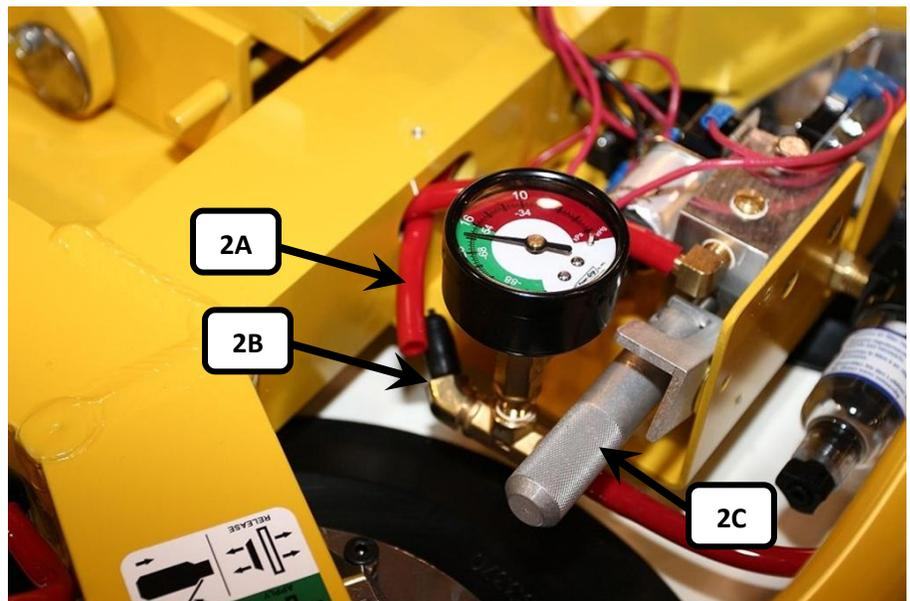

FIGURE 2
- 2) Remove the vacuum hose (2A) attached to the 45° barbed fitting, located on the vacuum gauge assembly. See **FIGURE 2**.